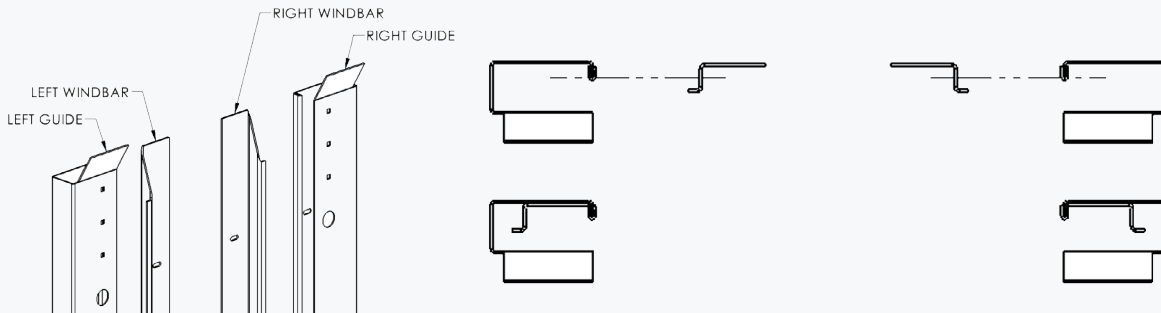

figure 7: Wind bar insertion into guide
- ✦ The door should be centered on the opening. Insert the corresponding wind bar into each guide then position top of guides 1/4-3/8" outward from frame (door opening) then install appropriate fastener from Table 1 in bottom hole of bracket, kick bottom of guide inward until top of bracket slants outward, then install fastener in top of bracket. Move bottom of the guide back out and make flush with frame. See Figure 7 & 7a. Make sure door is level.